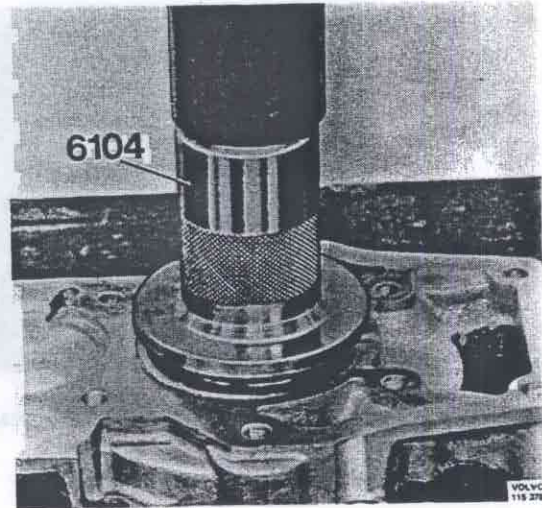
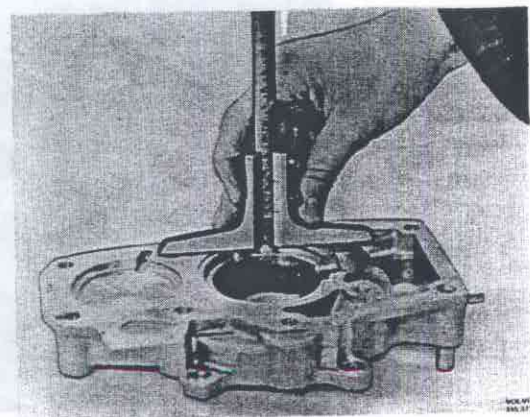

Fig. 43-117. Driving in seal
Fig. 43-118. Calculating clearance
22. Drive new seals into the rear cover, Fig. 43-117, with 6104. Measure the depth of the machined recess in the rear cover for the output shaft bearing, Fig. 43-118. Measure the distance between the bearing and the face of the seal, Fig. 43-118. The difference between the two measurements may be ± 0.05 mm (0.002"). Shims are available in the following sizes: 0.2, 0.5, 0.6, 0.7, 0.8, 0.9 and 1.0 mm (0.016, 0.020, 0.024, 0.028, 0.032, 0.036 and 0.039"). Grease the seal in the cover and fit on the cover.